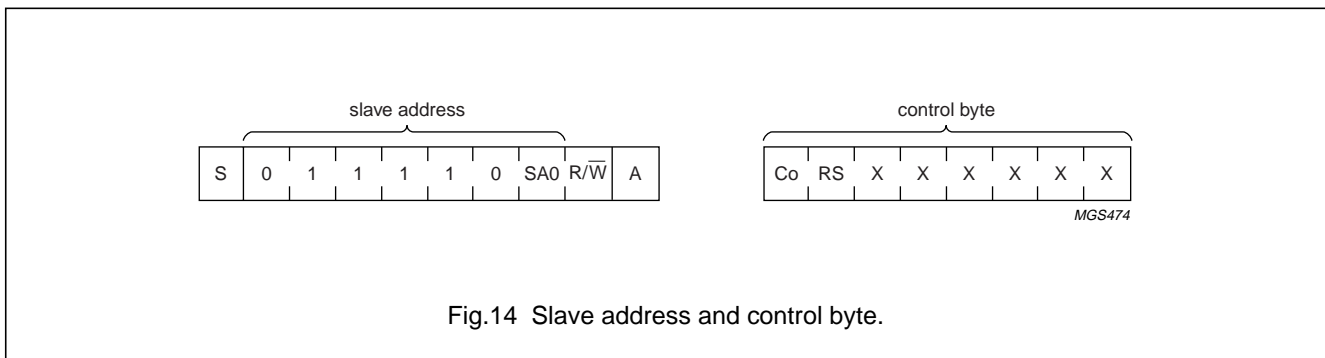

Fig.14 Slave address and control byte.
The I²C-bus protocol is illustrated in Fig.14.
The sequence is initiated with a START condition (S) from the I²C-bus master, and is followed by the slave address. All slaves with the corresponding address acknowledge in parallel, all others ignore the I²C-bus transfer. After acknowledgement, one or more command words follow, which define the status of the addressed slaves. A command word consists of a control byte, which defines Co and RS, plus a data byte (see Fig.14 and Table 1).